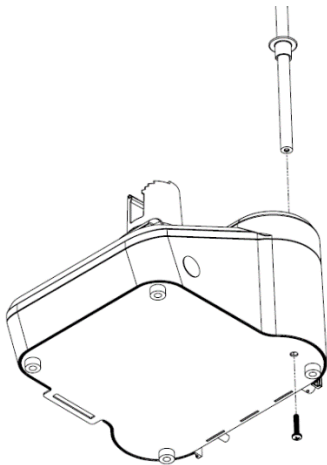

Figure 3. Screw Location for Securing Holder
2. Access the bottom of the titrator and secure the shaft using the captive screw on the bottom of the titrator and the screwdriver included with the titrator. Refer to **Figure 3**.